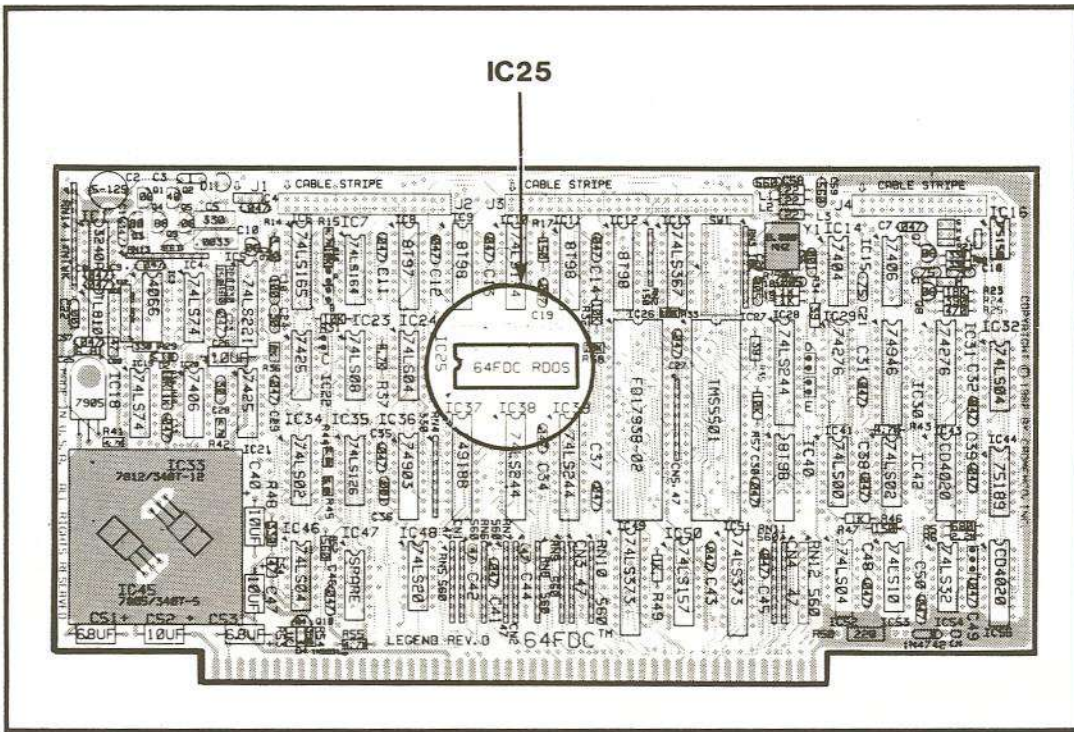

Figure 1: 64FDC BOARD (Component Side)
1. Locate and remove the old RDOS ROM from location IC25 (Figure 1).
2. Install the new RDOS 3.08 ROM at location IC25. Position the ROM as shown in Figure 1.